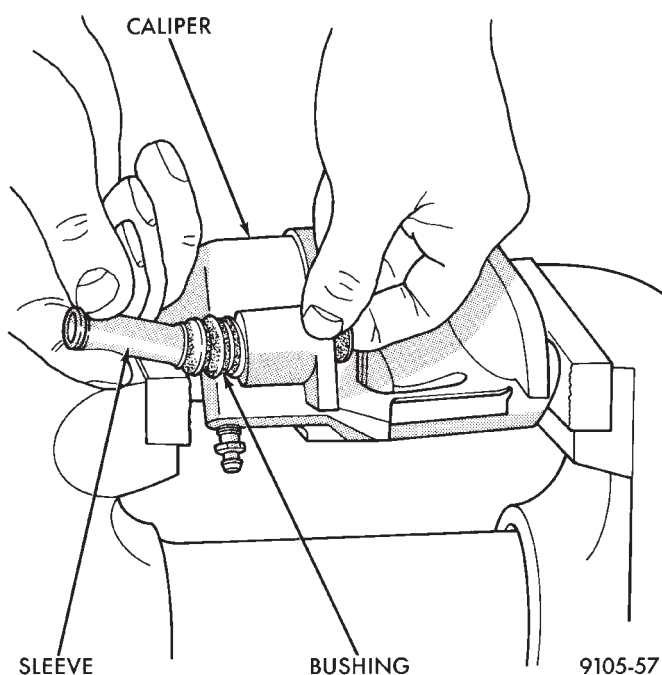

Fig. 164 Removing Inner Sleeve From Bushing
(1) Remove caliper from brake rotor (See Brake Shoe Removal). Hang caliper assembly on a wire hook away from the brake rotor.
(2) Push out and then pull the steel sleeve from the inside of the bushing using your fingers as shown in (Fig. 164).